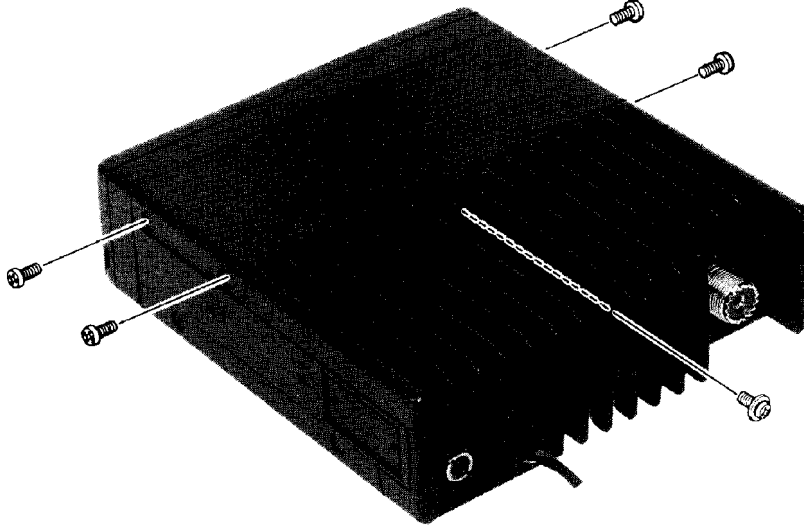

Figure 1.
- ❑ Disconnect the DC power cable, and referring to Figure 1 on the next page, remove the four screws affixing the top cover (two on either side), and *loosen* the one on top from the back by several turns. Lift the rear edge of the cover slightly, then remove it.